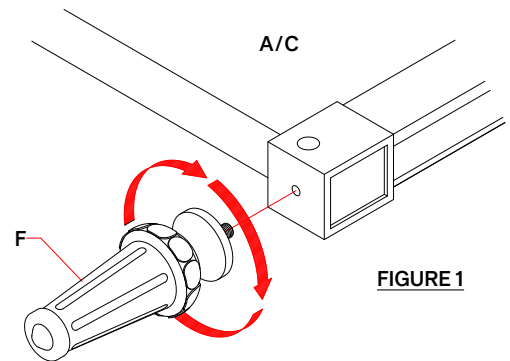

FIGURE 1
1. Lay the headboard (A) on a flat surface, then attach the legs (F) to the bottom of the headboard by turning them manually. Repeat this step to attach the legs to the footboard (C). See FIGURE 1.
3. Secure the threaded rod (1) to the fixed nut on the headboard by simply turning manually.